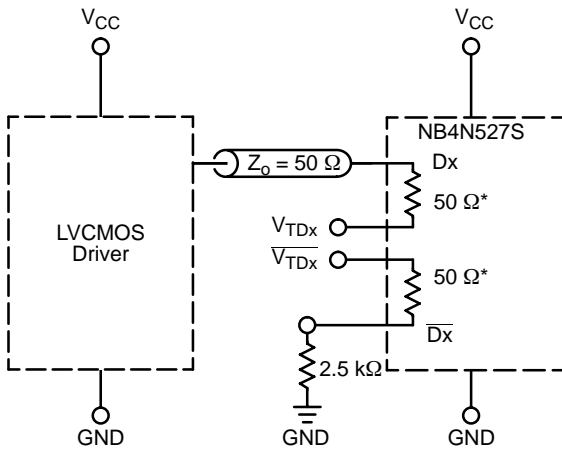

Figure 11. LVC MOS Interface
**DIFFERENTIAL INPUTS DRIVEN SINGLE-ENDED** (Figures 11, 12, 16, and 18)